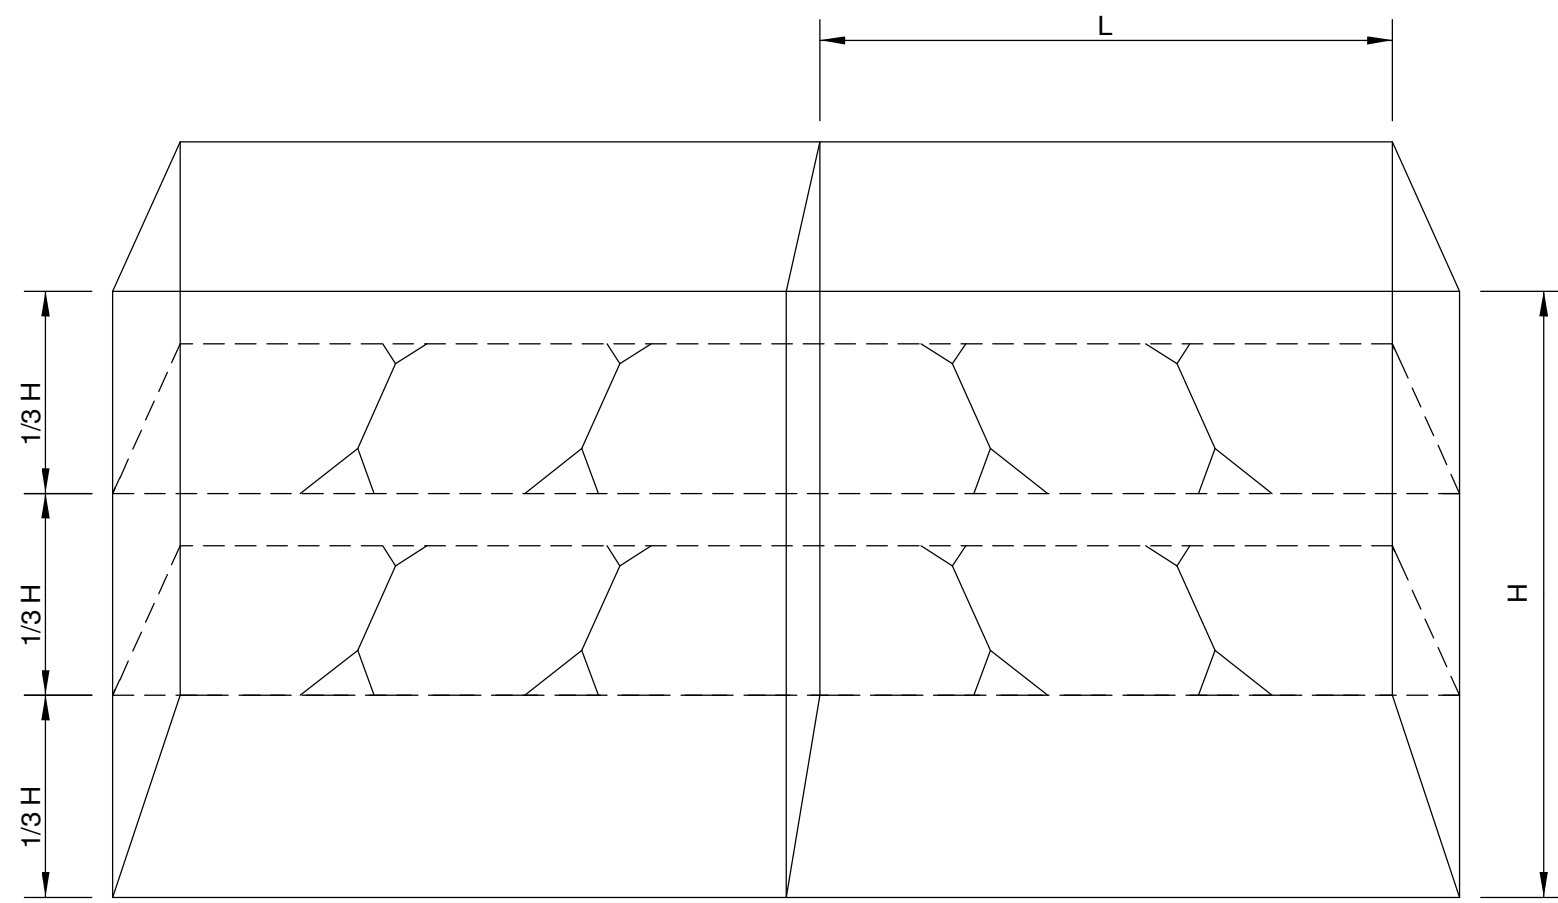

FIGURE 9
2. FILL EACH GABION CELL TO 1/3 H. INSTALL BRACING WIRES AT THIS HEIGHT (FIGURE 9) A MINIMUM OF FOUR BRACING WIRES PER SQUARE METRE OF GABION FRONT FACE SHOULD BE USED. BRACE EACH GABION OF THE UNIT BEFORE PROCEEDING TO FILL THE GABIONS FURTHER